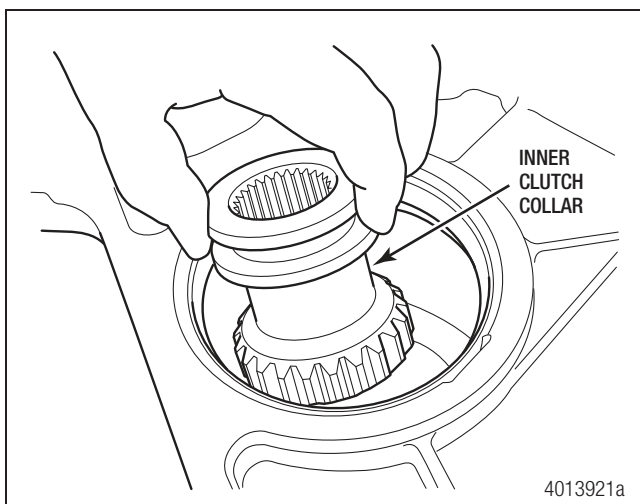

Figure 7.8
3. Lower the inner clutch collar into the front case half. Figure 7.8.